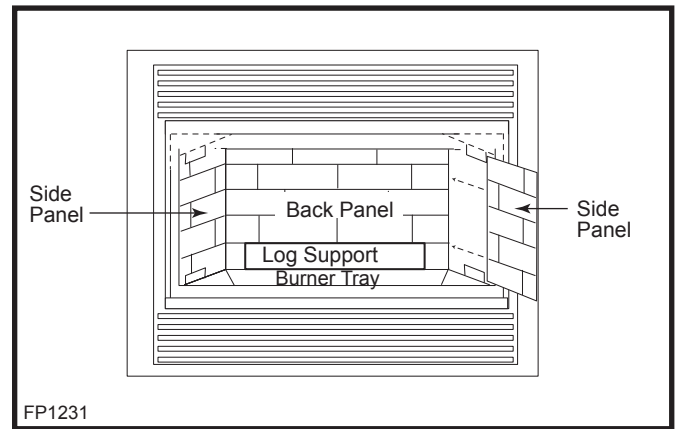

Fig. 54 Ceramic panel installation.
**Installation** Refer to Figures 54 & 55